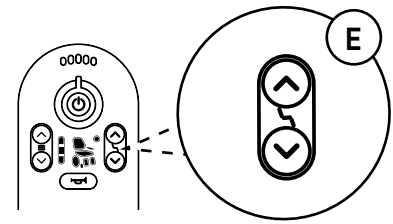

Figure 5.7. Controls for seat functions on the LiNX REM211.
Press the buttons (E) to select the seat function, see Figure 5.7. An orange light on the display indicates the selected seat function. You can also switch between seat functions by moving the joystick sideways.